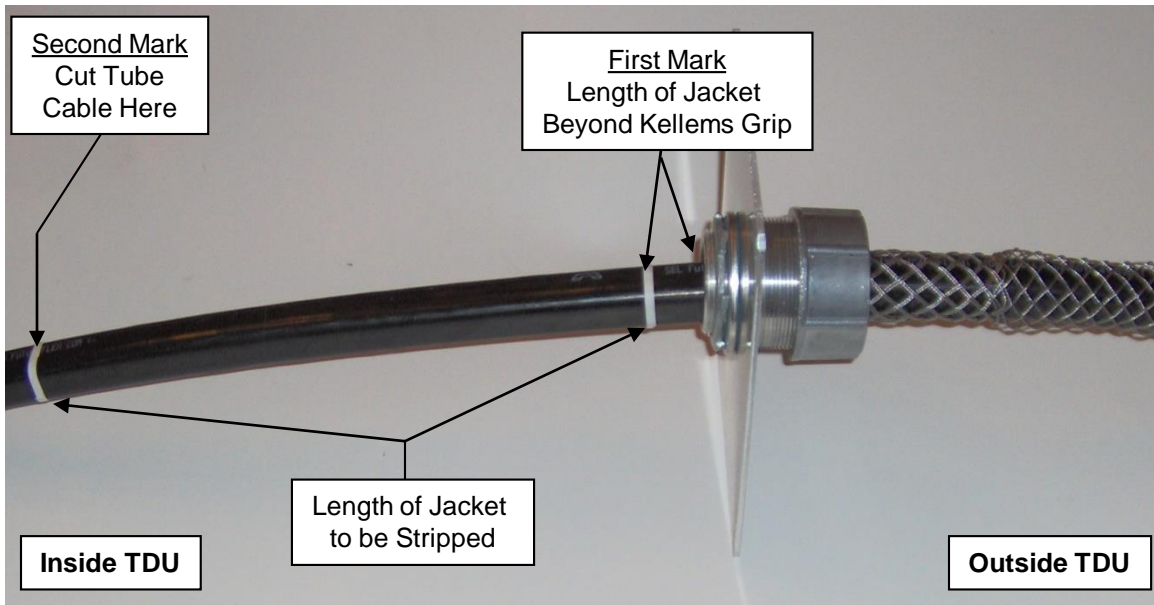

Figure 5
7.3 Place tube cable into TDU enclosure and mark jacket in two (2) places. See Fig. 5.